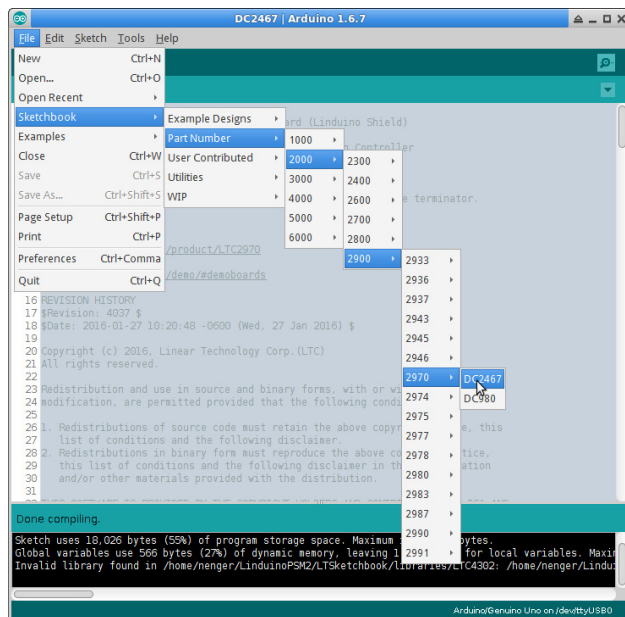
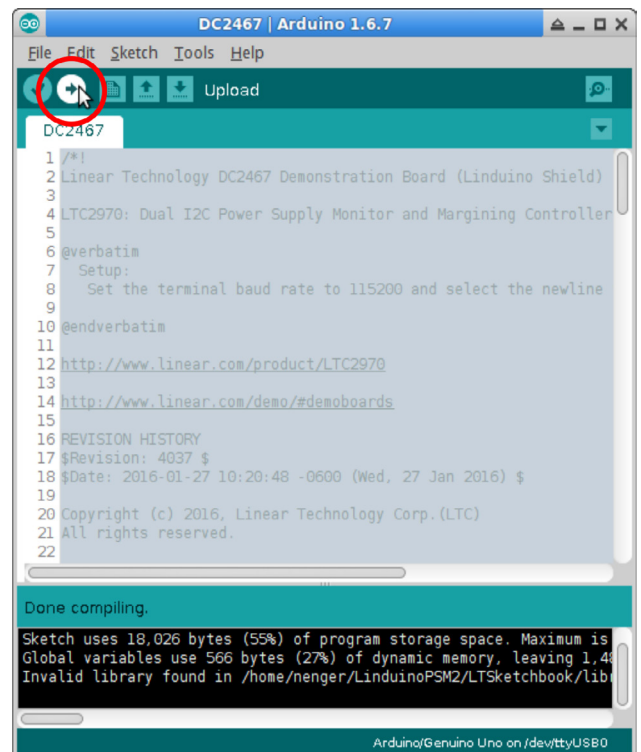

Figure 2. Open the DC2467 Sketch from the Sketchbook Menu
Figure 3. Press the Compile and Upload Button
Begin by opening the Arduino software. Select the DC2467 sketch in the Arduino File menu (Figure 2):
Press the arrow button at the top of the window to compile and upload the sketch (Figure 3).
2. Load the DC2467 Linduino sketch (Figure 2 and Figure 3).